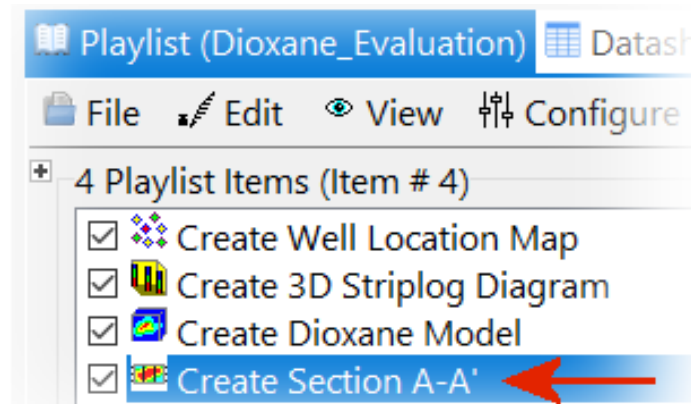

Figure 84
- Click on the Playlist button within the upper-right corner of the menu, save these menu settings as “Create Section A-A’” (Figure 84), and run the Playlist to make sure that everything works.